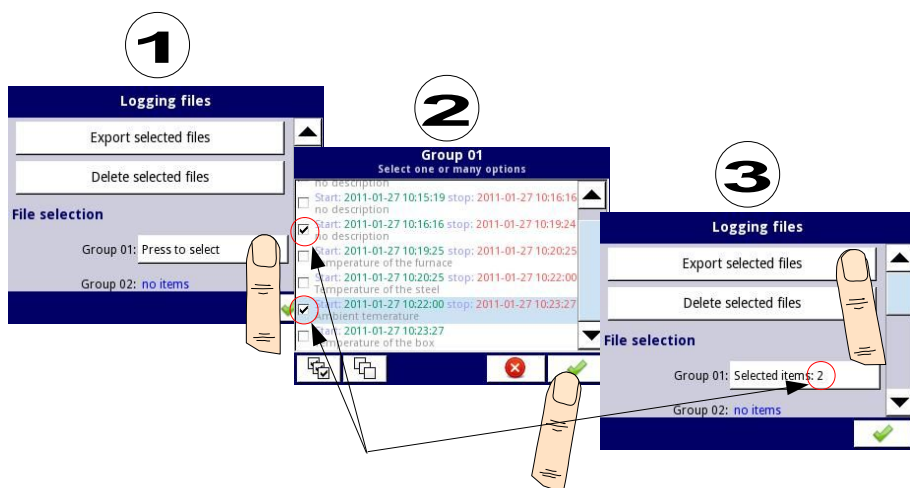

Fig. 7.19. Steps of exporting logged files to flash drive
An example of exporting 2 logged files from group 1 is shown in **Fig. 7.19**. First plug the flash drive into the device (when the device is equipped with one of the hardware communication configurations).
Deleting files from the device is similar to exporting logging files, the difference is that instead of pressing the **Export selected files** button in (3) step (see Fig. 7.19), press the **Delete** button.